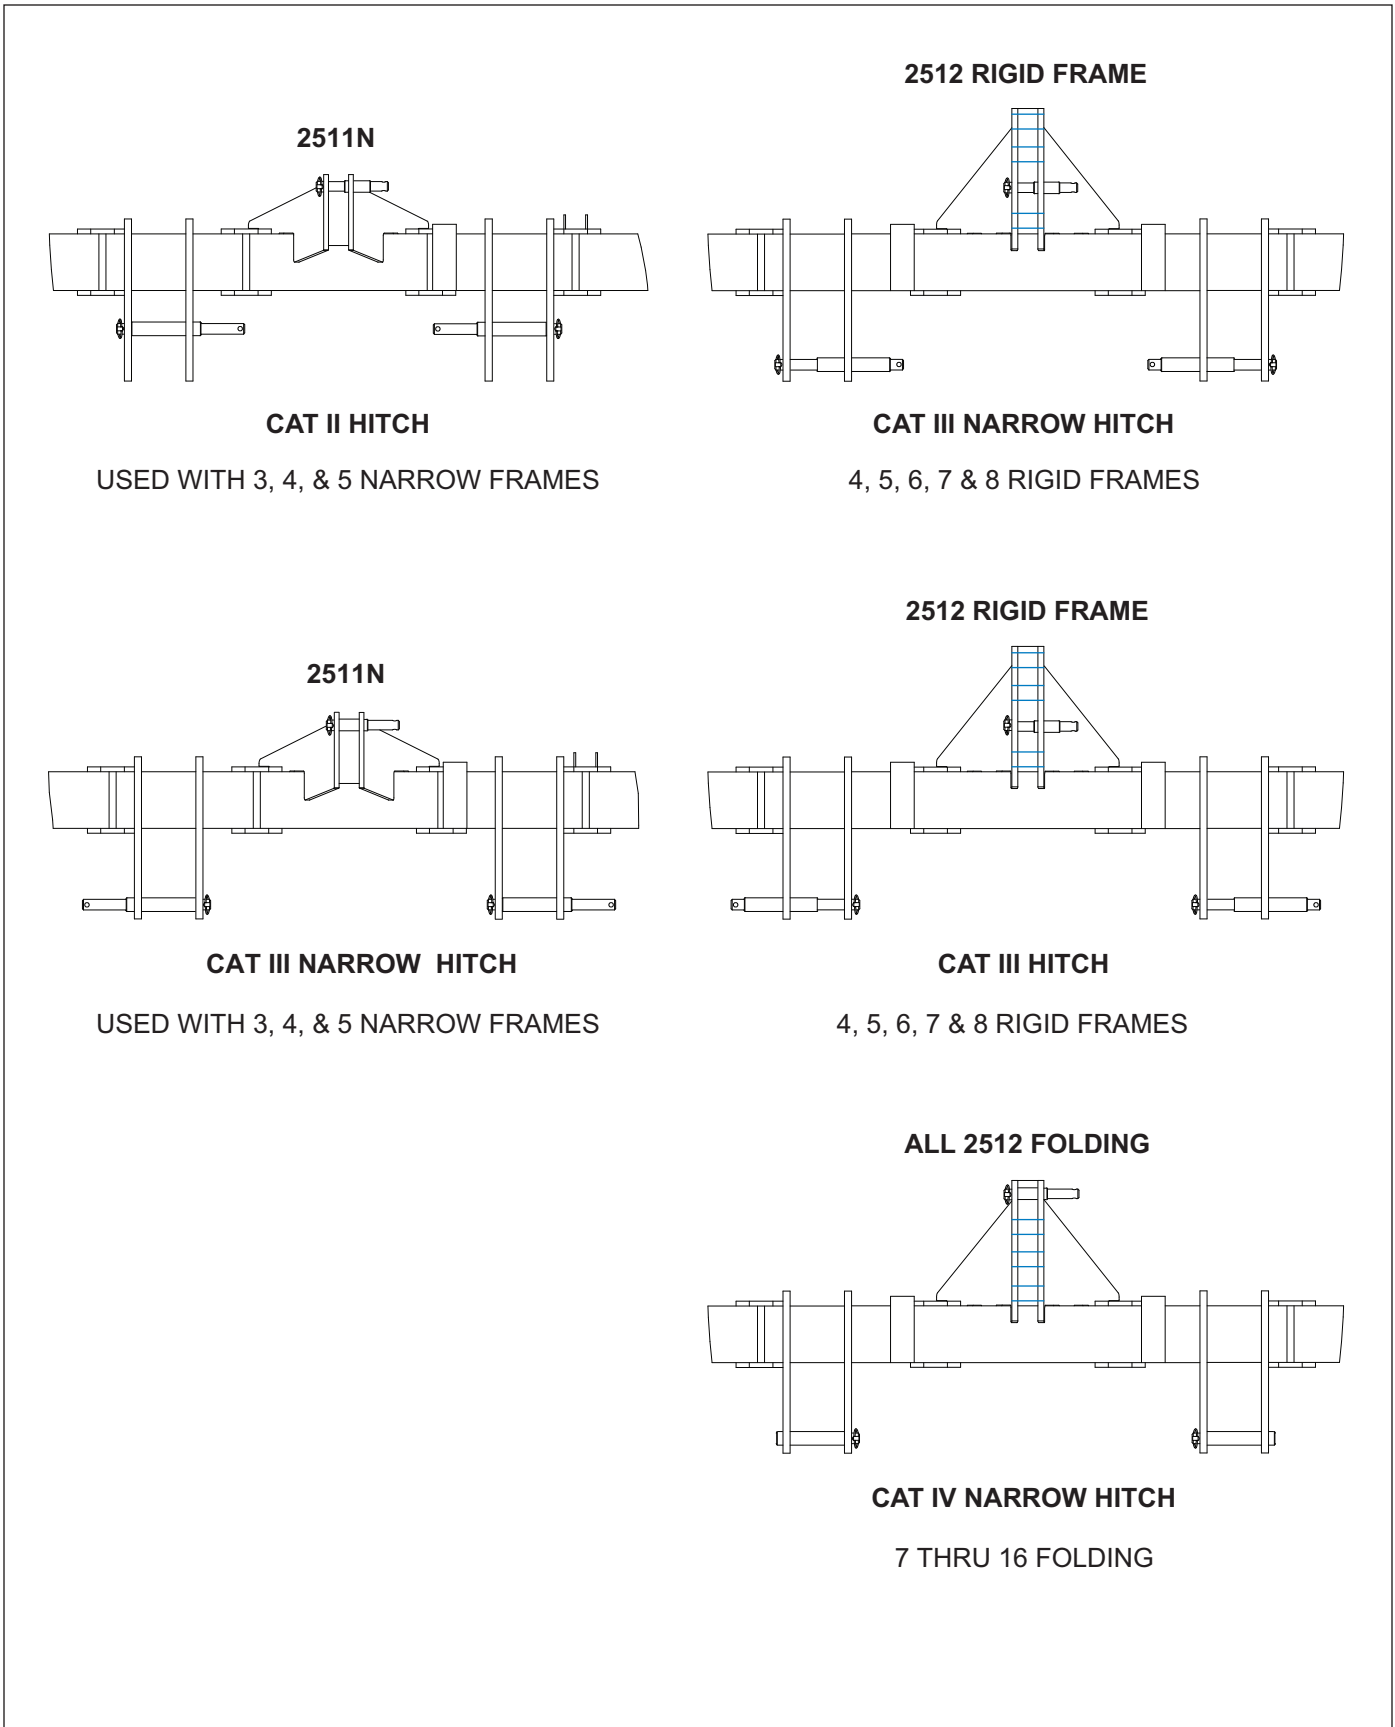

Figure 4-1: 3 Point Hitch Setup
- a. Attach lower lift arms of the tractor to the In-Row Ripper utilizing appropriate pins. 2512 Rigid Model come with either Category IIIN, CAT III, and CAT IVN. 2512 Folding Models come with CAT IVN ONLY. *(See Figure 4-1)*